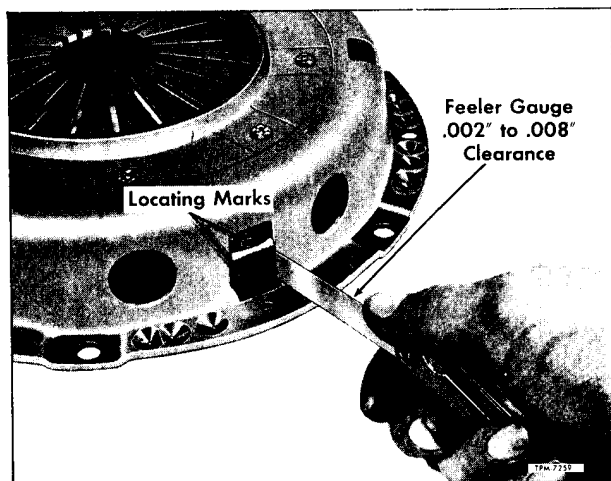

Figure 66—Clutch Cover-to-Plate Alignment Marks and Driving Lug Clearance Check
NOTE: Check clearance between driving lugs of pressure plate (28) and mating slots in clutch cover (27) in manner shown in figure 66. If clearance is greater than .008", examine cover and lugs of pressure plate for wear and if necessary, replace worn parts.
If locating marks "O" on cover and pressure plate (fig. 66) are not visible, mark parts as shown. Remove pressure plate retracting spring bolts (24), remove springs (25), then separate pressure plate from cover.
1. Apply light coat of graphite grease on sides of pressure plate driving lugs; then install plate in cover, making sure balance mark "O" on cover (27) is matched with corresponding mark on pressure plate (28). Refer to figure 66.
2. Install three retracting springs (25) on pressure plate (28). There must not be any clearance between clutch spring and retracting spring when spring attaching screws are tight.